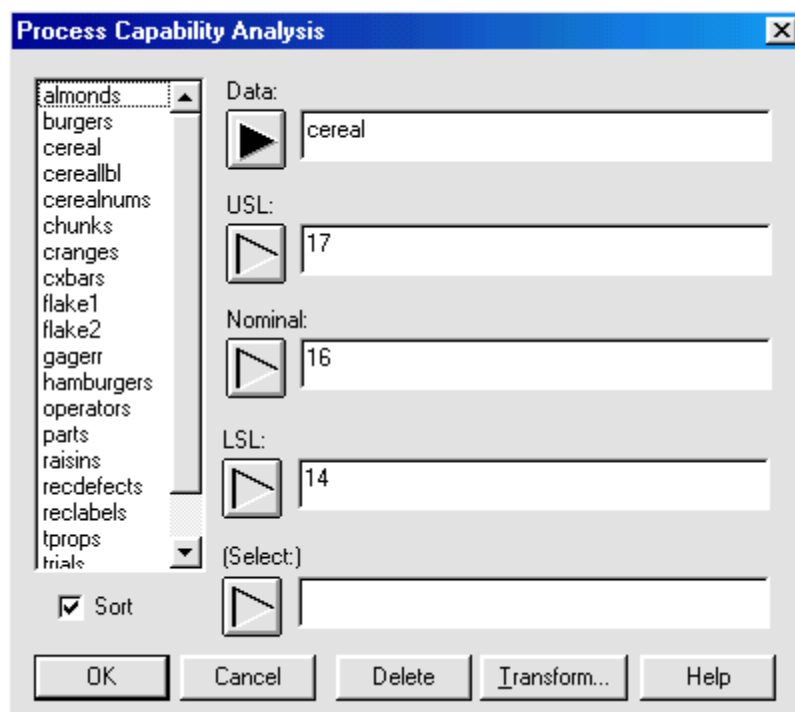

Figure 2-1. Process Capability Analysis Dialog Box
1. Choose SPECIAL... QUALITY CONTROL... PROCESS CAPABILITY ANALYSIS... from the Menu bar to display the Process Capability Analysis dialog box shown in Figure 2-1.